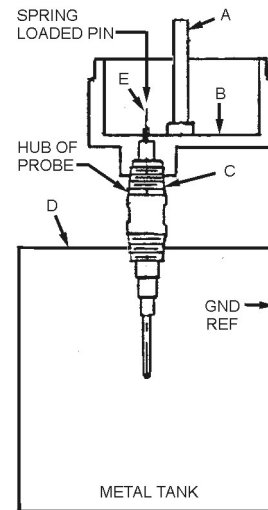
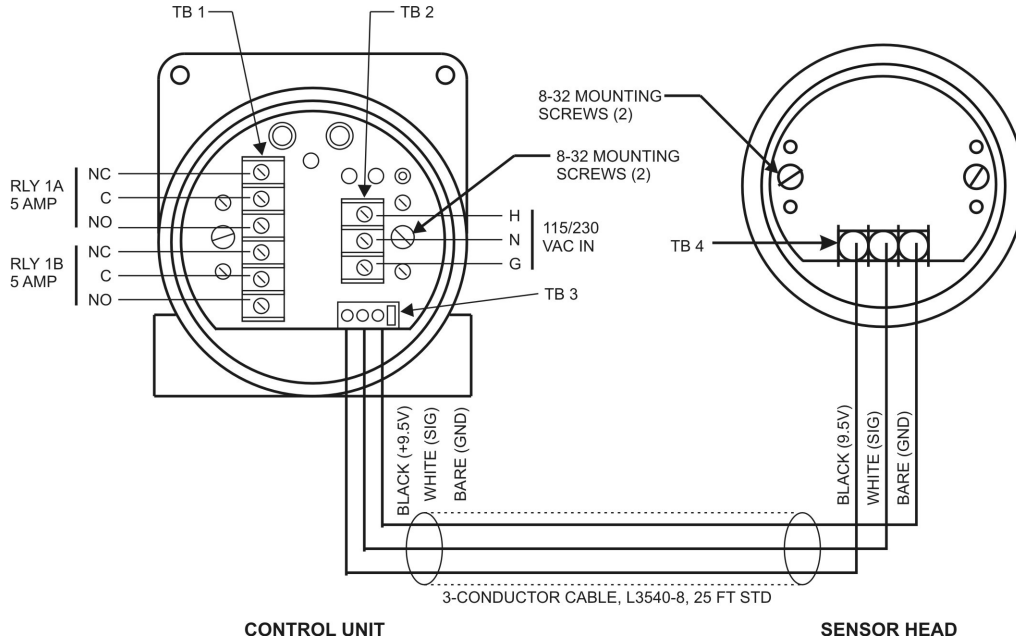
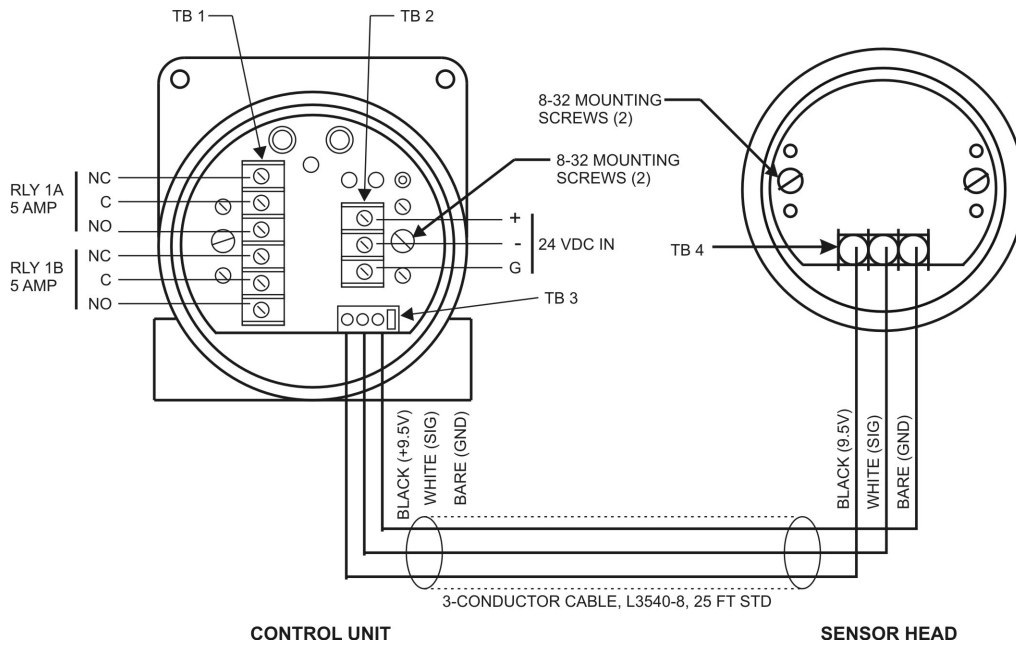

Figure 3-3
Figure 3-4
Figure 3-5
heavier wire. See Figures 3-4 and 3-5. See Figure 3-3 for ground continuity testing.
Do not use any type of thread lubricant on the NPT probe mounting threads or the NPT threads that mount the electronic housing. Application of thread lubricant may cause faulty or improper ground connection. If required, Teflon tape may be used as a thread seal for either threaded connection. If Teflon tape thread sealant is used, the installer should make an electrical continuity check with a hand held ohmmeter. Continuity should exist between the storage vessel and the equipment electronic housing. Less than 1 ohm resistance should exist between these two points. See Figure 3-3.
Remove the lid of the L3540 Control Unit in preparation for connection of input and output wires. Before drawing wires into the equipment housing, it may be necessary to remove the electronic circuit board chassis. To do so, unfasten the two 8-32 mounting screws that are located in the center position on the outboard sides of terminal blocks TB1 and TB2 (see Figures 3-4, 3-5). Once screws are unfastened, remove the circuit board chassis by pulling it out of the instrument housing.
For 115Vac and 230Vac powered units, connect the ac power line wires: Hot (H), Neutral (N), and Ground (G) respectively, to the right terminal strip (TB2) as shown in Figure 3-4.
If the unit requires 24Vdc for power, the terminal strip TB2 is labeled as plus (+), minus (-) and ground (G). Connect 24Vdc power accordingly (See Figure 3-5).
Connect the normally open (NO), normally closed (NC) and common (C), relay wires to the left terminal strip (TB1) as shown in Figure 3-4 and Figure 3-5, and as required by the specific application circuit.
The relay contact configuration, shown in Figures 3-4 and 3-5, and labeled on the instrument overlay panel surface, is identified as such with the relay in the de-energized (shelf) state. Fail-safe operation requires relay to be normally in the energized (non-shelf) state. Upon alarm, configured as either HIGH or LOW, the relay then becomes de-energized (shelf state), as per Figure 3-4, 3-5, and TB1 labeling.
Connect the Control Unit to Sensor Head cable (L3540-8) to the terminal block TB3 as shown in Figure 3-4 or 3-5:
Remove the lid of the L3540 Sensor Head in preparation for connection of input and output wires. Before drawing wires into the equipment housing, it may be necessary to remove the electronic circuit board chassis. To do so, unfasten the two 8-32 mounting screws which are located in the center position on the outboard sides of the electronic chassis (see Figures 3-4, 3-5). Once screws are unfastened, remove the circuit board chassis by pulling it out of the instrument housing.
Connect the three cable wires - Black, White, and Bare respectively - to the terminal block (TB4) as shown in Figures 3-4 and 3-5. These connections supply power to the Sensor Head from the Control Unit, and return the measurement signal from the Sensor Head to the Control Unit.